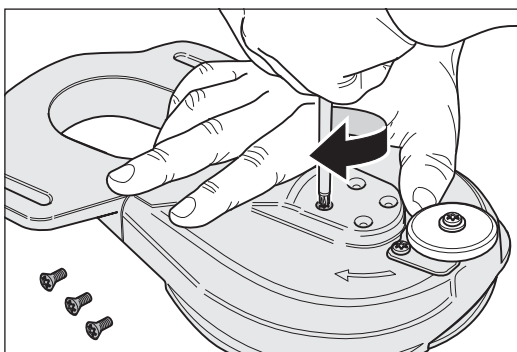

Fig. 45 Tighten the four screws for attaching the complete sanding plate.
- 4 Turn the attachment over and tighten the four screws for attaching the complete sanding plate using the universal spanner (fig. 45).